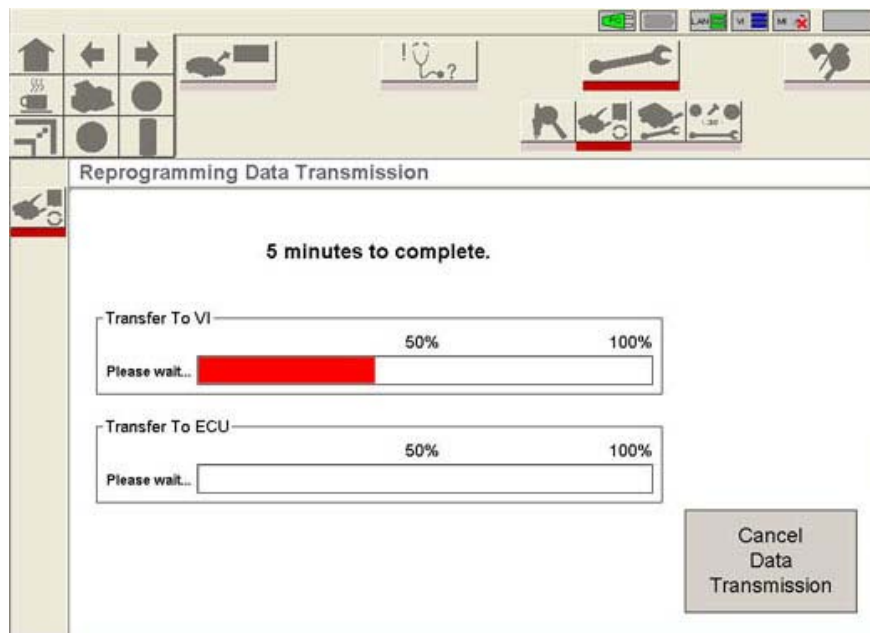

Figure 8
19. The screen in Figure 8 shows during data transfer.